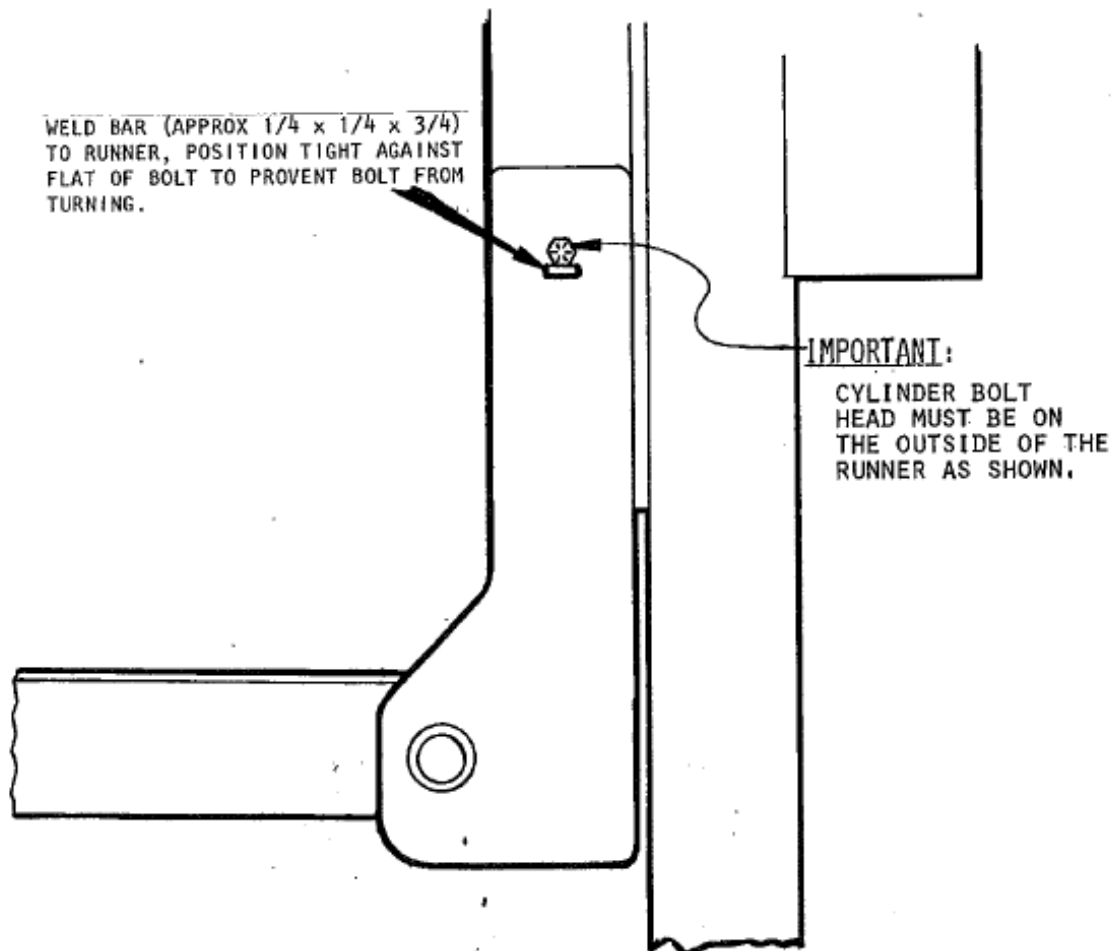

FIG. 1
2. EXAMINE THE CLOSER CYLINDER MOUNT BOLT (FIG. 1) IN THE RUNNER. IF THE HEAD OF THE BOLT IS ON THE INSIDE OF THE RUNNER, THEN THE BOLT MUST BE REMOVED AND PUT BACK IN WITH THE HEAD ON THE OUTSIDE OF THE RUNNER AS SHOWN IN FIG. 1.